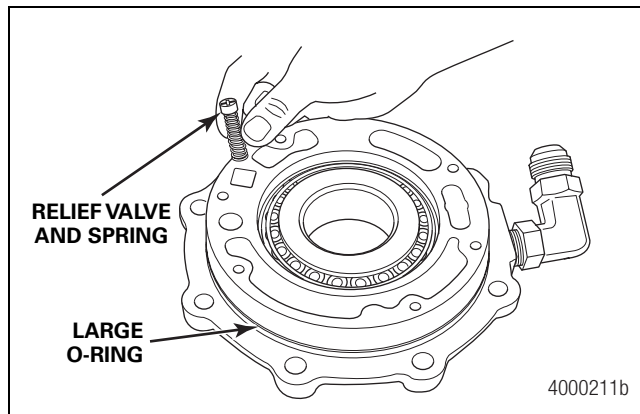
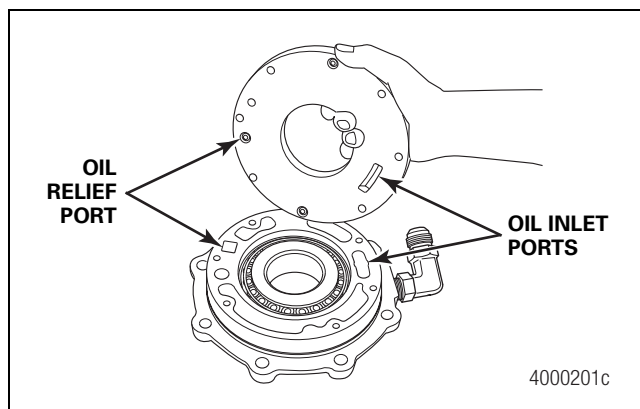

Figure 6.18
Figure 6.19
1. Place the large O-ring around the groove on the bearing cage. Figure 6.18.
2. Pack grease into the pump oil inlet port before assembling the oil pump to the input bearing cage. Figure 6.19.
4. Insert the relief valve and spring into the relief port of the input bearing cage. Install the large diameter end of the spring down. Figure 6.18. Align the oil pump inlet with the oil inlet port of the input bearing cage. Figure 6.19.